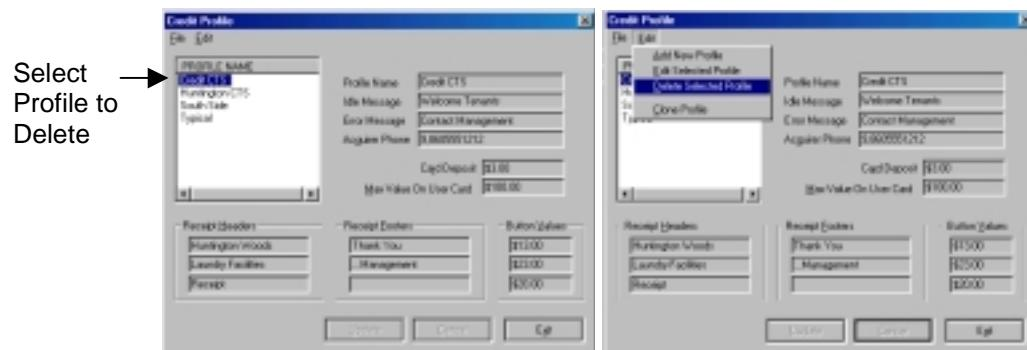

Figure 10.7 Deleting a Credit CTS Profile
2. Click the profile to delete from the Profile List Window (Figure 10.7).
3. Select Delete Selected Profile from the Edit drop-down menu (Figure 10.7).